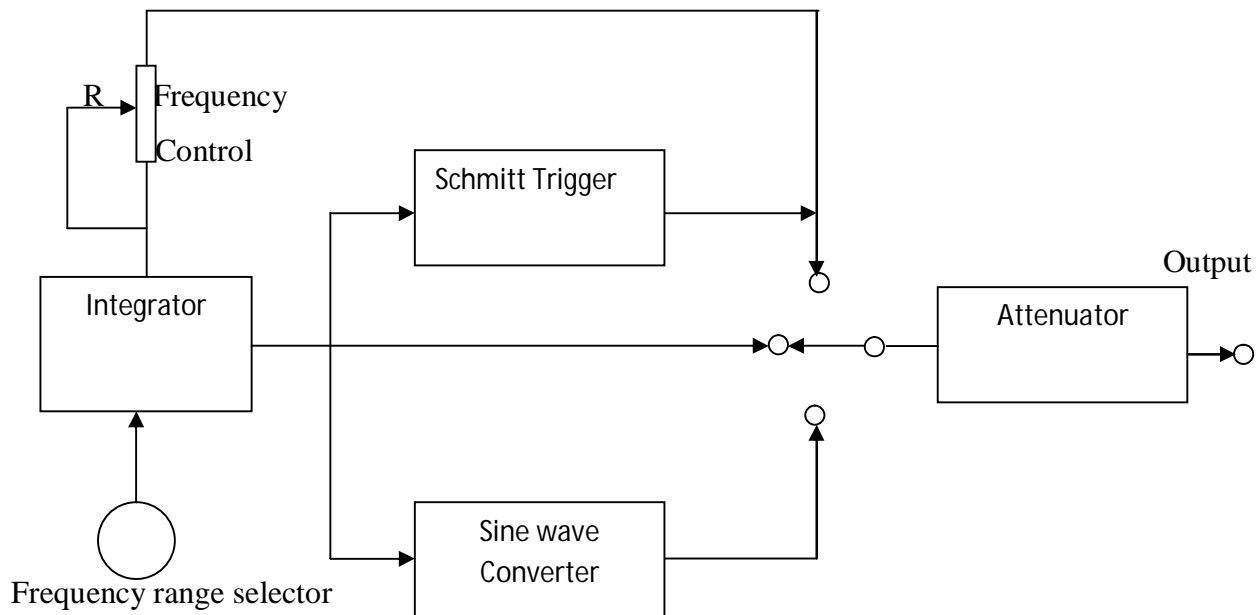

Figure 5.3: Block Diagramme of a Function Generator
The major parts of a function generator are Schmitt trigger, integrator, sine-wave converter and an attenuator. The Schmitt trigger converts a slowly varying input signal to a square wave signal. This square wave signal is available at the output as well as it is also connected to the integrator as an input through a potentiometer (R) as shown in Figure 5.3. The potentiometer is used to adjust the frequency of the output signal. The frequency range is adjusted by selecting the appropriate capacitor connection in the integrator circuit. The sine wave converter is a six level (or more) diode-resistor loading circuit.